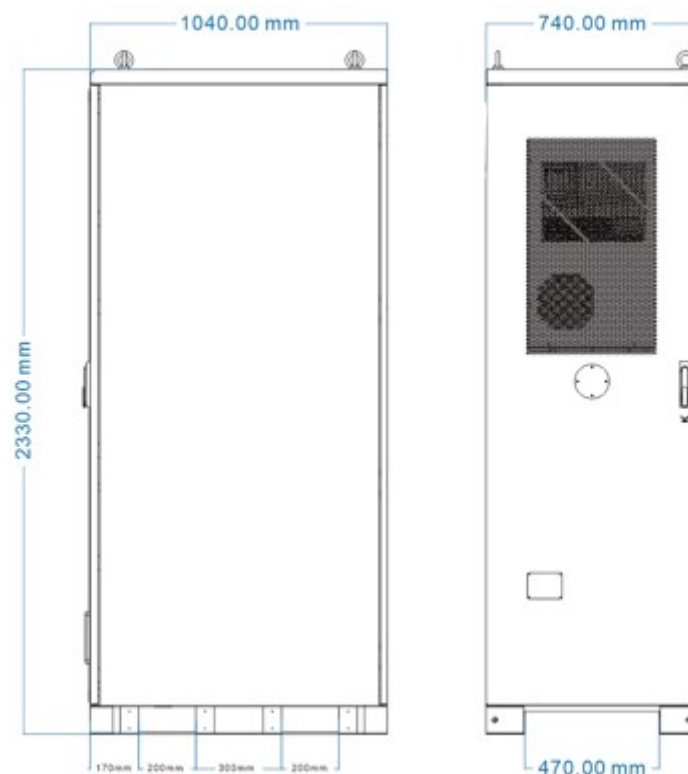

Fig.3-2 Forklift Hole Diagram
2. When using a forklift for lifting operations, the fork should be fully inserted into the entire depth of the energy storage cabinet, with the fork length being no less than 1500mm. As shown in Fig. 3-2 below: